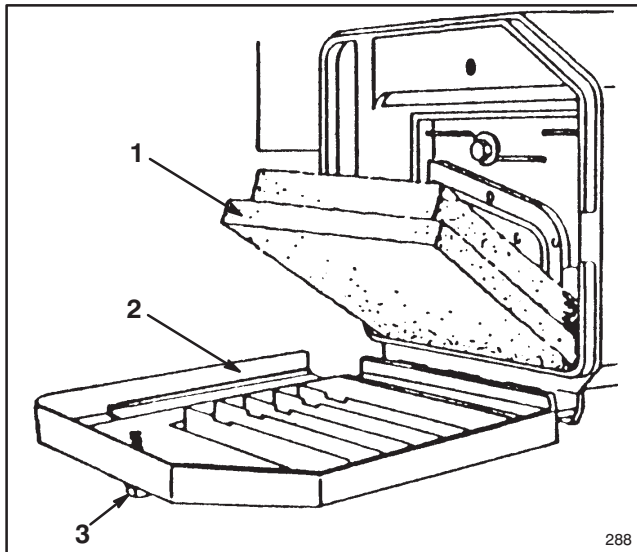

Figure 16
2. Rotate knob securing air cleaner cover to engine until cover can be removed. Clean cover thoroughly (Fig. 16).
3. If the foam element is dirty, remove it from air cleaner body (Fig. 16). Clean thoroughly.